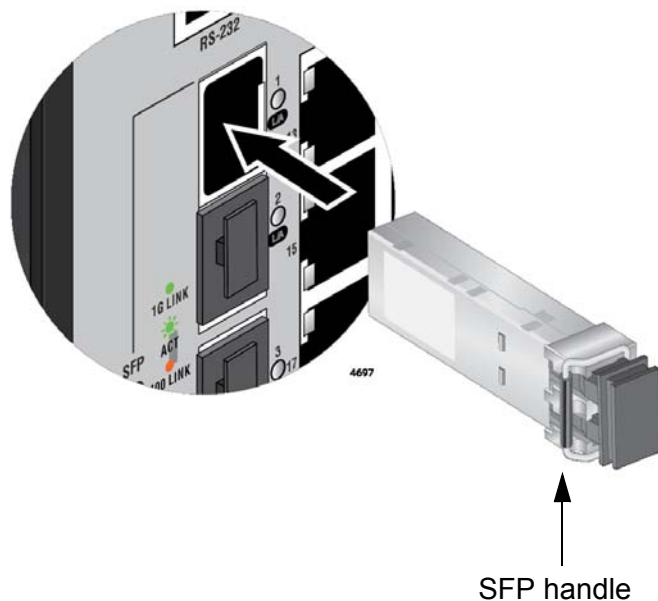

Figure 30. Installing an SFP Transceiver
3. Position the transceiver with its handle on the right and slide it into the slot until it clicks into place. Refer to Figure 30.